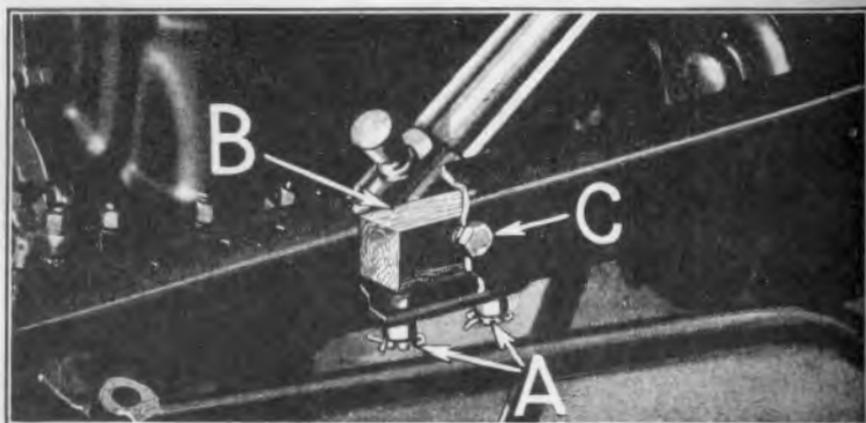

Fig. 97
- Position steering gear bracket on frame. Insert the two steering gear bracket bolts—short through frame and bracket. Run down nuts tightly on ends of bolts and lock with cotter keys (See "A" Fig. 97).